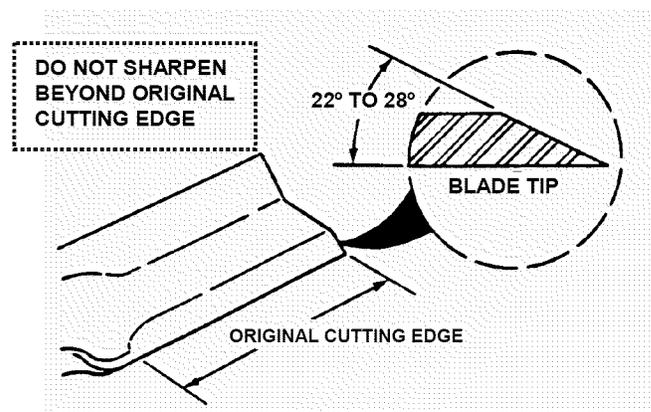

FIGURE 4.13
7. If blade is in good condition, sharpen at 22 to 28 degrees. **DO NOT** sharpen beyond existing cutting edge. See Figure 4.13.